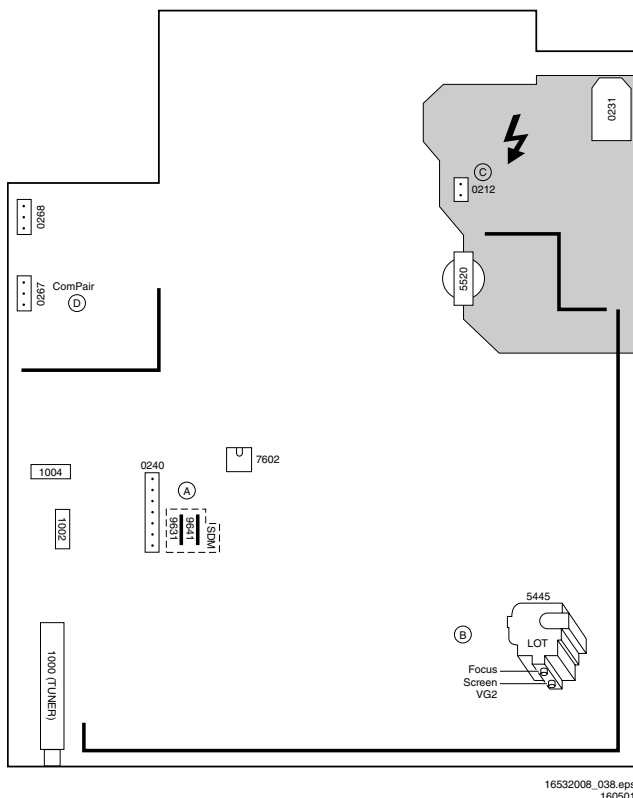

Figure 8-1
10. Select the cathode with the highest V_{DC} value for the alignment. Adjust the V_{cutoff} of this gun with the SCREEN potentiometer (see Fig. 8-1) on the LOT to the correct value (see table below).
3. Adjust the FOCUS potentiometer (see Fig. 8-1) until the vertical lines at 2/3 from east and west, at the height of the centreline, are of minimum width without visible haze.